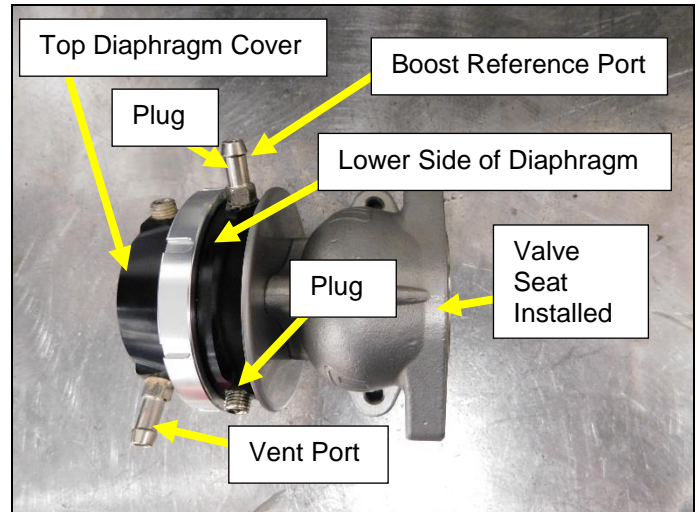

Figure 47
IMPORTANT: The **Boost Reference Line** from the 4-way tee at the brake booster **MUST ALWAYS** be connected to the lower side of the diaphragm (**Figure 47**). **NEVER** connect boost reference to the top side of the diaphragm. Connecting boost reference to the top diaphragm cover will result in serious over boost condition that will cause immediate and serious engine damage. The lower side of the diaphragm must have a boost reference to one port and the second port will be plugged.
2. Install one hose barb and one plug in each side of the diaphragm housing (**Figure 47**).